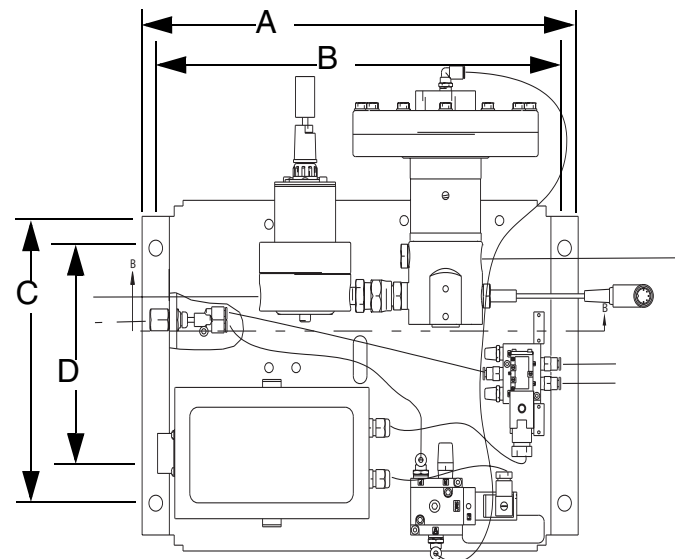

FIG. 8
2. Locate and secure the PrecisionFlo LT fluid metering assembly to the automation unit (or other mounting surface) with appropriate size bolts through the 0.42 in. (10.7 mm) diameter holes in the base plate. See the mounting dimensions in **Table 1 - Measurement, inches (mm)** and FIG. 8.
1. Locate the receptacle on the top of the control unit. See Fig. 8.